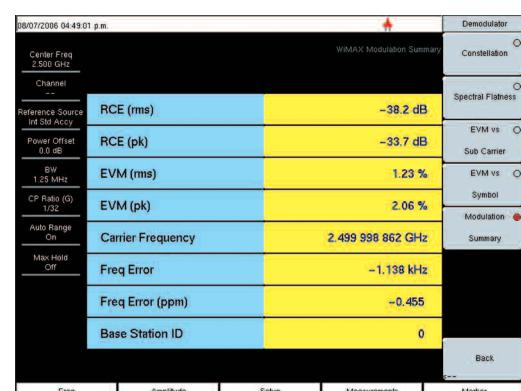

Figure 12. Modulation Summary view.
3. Press the Modulation Summary soft key to activate the measurement. The red dot on the soft key indicates it is selected (Figure 12).